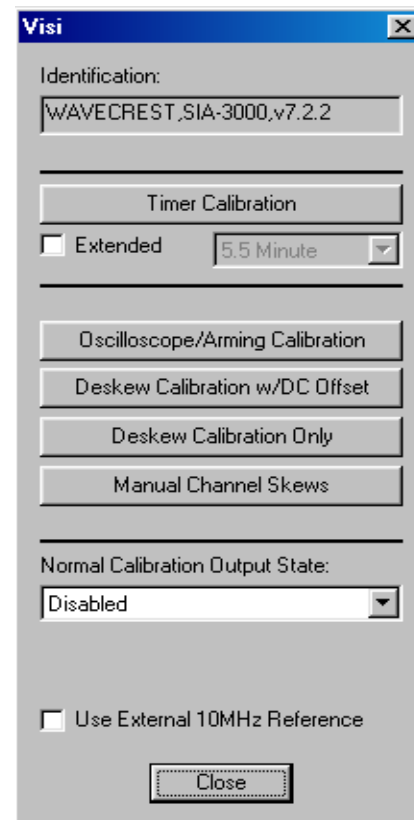

Figure 1. VISI Calibration dialog box
In the Menu Bar, select **Action** followed by **Calibration...**. Press "Timer Calibration" (Figure 1). To run an extended calibration, select **Extended** check box and choose the desired time from the drop down menu then press "Timer Calibration". No front panel connections are necessary for the Timer Calibration. The elapsed time is shown in the Status Bar on the lower right of the screen.
- Select "Deskew Calibration w/DC Offset" (see Figure 1).
- Select "Deskew Calibration" (see Figure 1).
- Select "Manual Channel Skews" (see Figure 1).